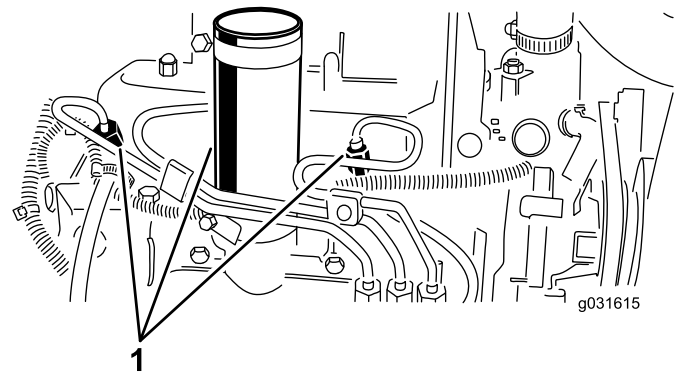

Figure 52
1. Loosen the pipe connection to the No. 1 nozzle and holder assembly (Figure 52).